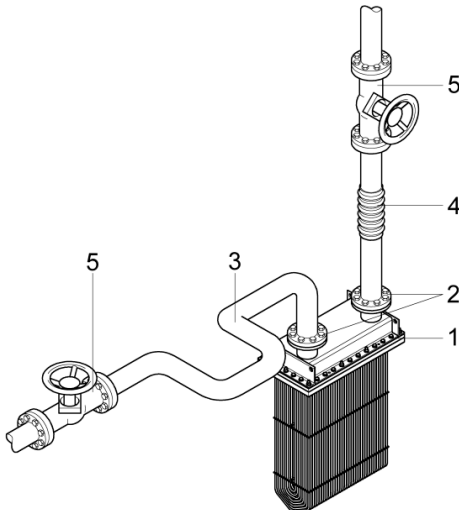

Figure 11. Typical piping installation with an expansion loop (3), an expansion joint (4) and service valves (5), connected to the box cooler flanges (1 and 2).
- Make sure the piping system allow for thermal expansion and contraction of both the box cooler and the attached piping. Ensure adequate flexibility of the piping system (e.g. by fitting expansion loops and expansion joints, see fig. 11).
- Install manual service valves or bypasses in the supply and return pipes to enable isolation of the box cooler from the supply piping. In this way safe inspection and maintenance can be carried out without having to shut down or drain a larger system (see fig. 11).